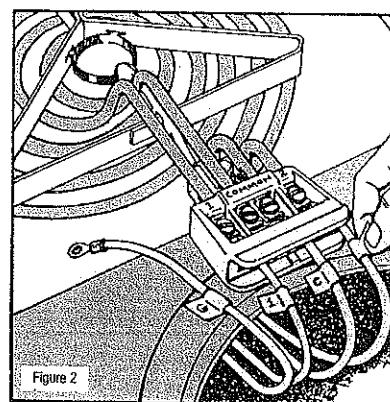

Figure 2
5. Identify two line (power) wires and tag as 1 and 2 (See Figure 2).
6. Tag ground wire. (See Figure 2).